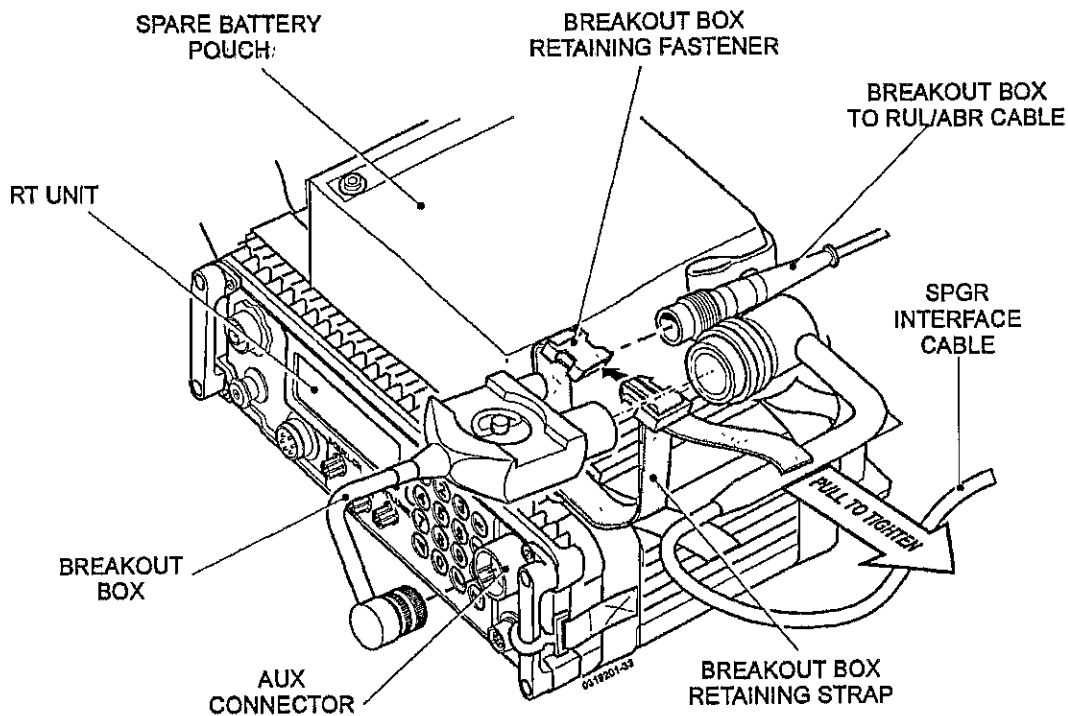

Fig 19 Breakout box installation - manpack station
85.1 Refer to Fig 19. Disconnect the SPGR interface cable from the R/T unit AUX connector. Check that the carry container breakout box retaining strap and fastener are free.
85.3 Connect the breakout box to RUL/ABR cable between the breakout box audio breakout (7-way) connector (Fig 19).